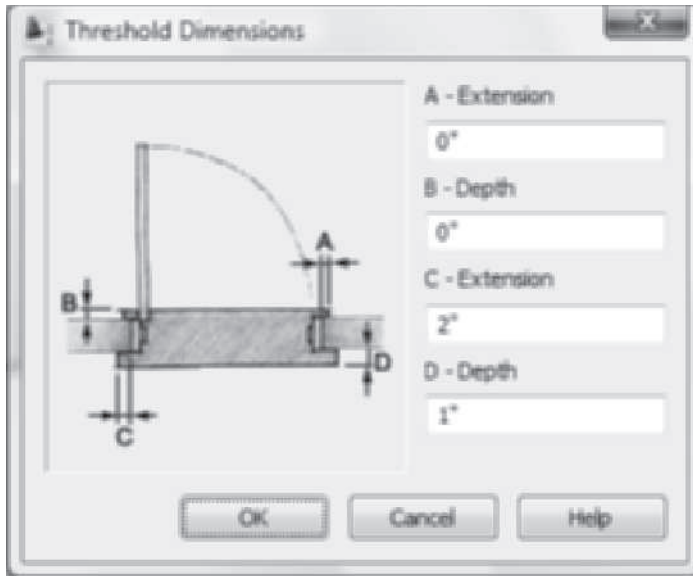

FIGURE 5.62 Threshold Dimensions dialog box
22. Edit the Threshold Dimension dialog box as follows: C-Extension = 2" [50] and D-Depth = 1" [25] as shown in Figure 5.62. Click OK to dismiss the dialog box.